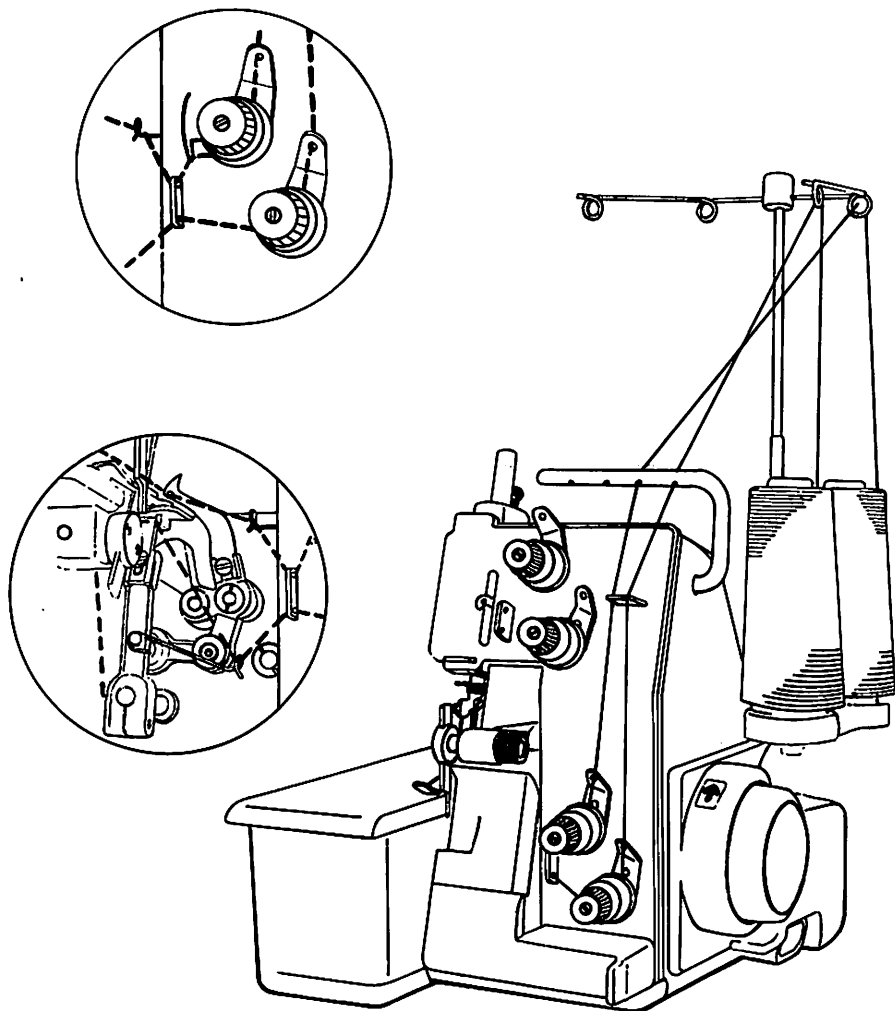

fig4-1-2
- (2) Overlockstitch looper thread..... (fig. 4-1-2, page 8)